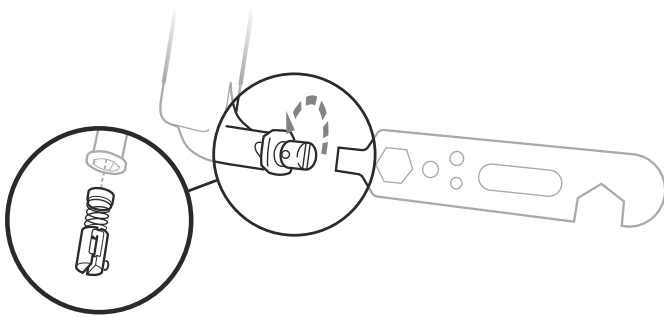

Figure 14-15. Remove the Check Valve Assembly.
- Remove the check valve assembly (see fig. 14-15).